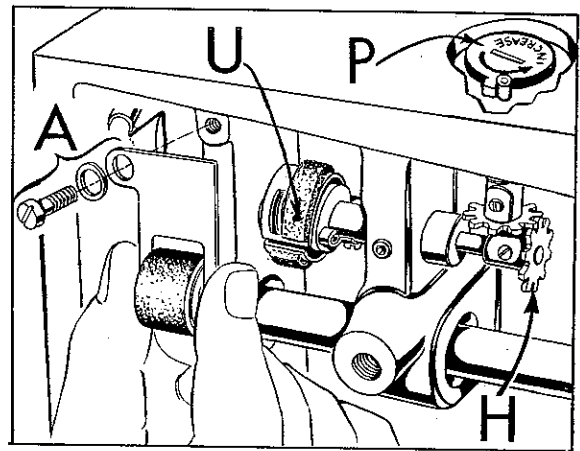

Fig. 26
12. Assemble the hook oil feed roller (A, Fig. 26), and rotate the metering cup so that the roller contacts the metering cup felt at point (U, Fig. 26). Turn the oil control adjusting shaft (P, Fig. 26) in the increase direction until projection stops against the stop pin (this is maximum oil supply) and install the cog (H, Fig. 26) on the hook oil control shaft. After meshing the teeth, tighten the set screw securely.